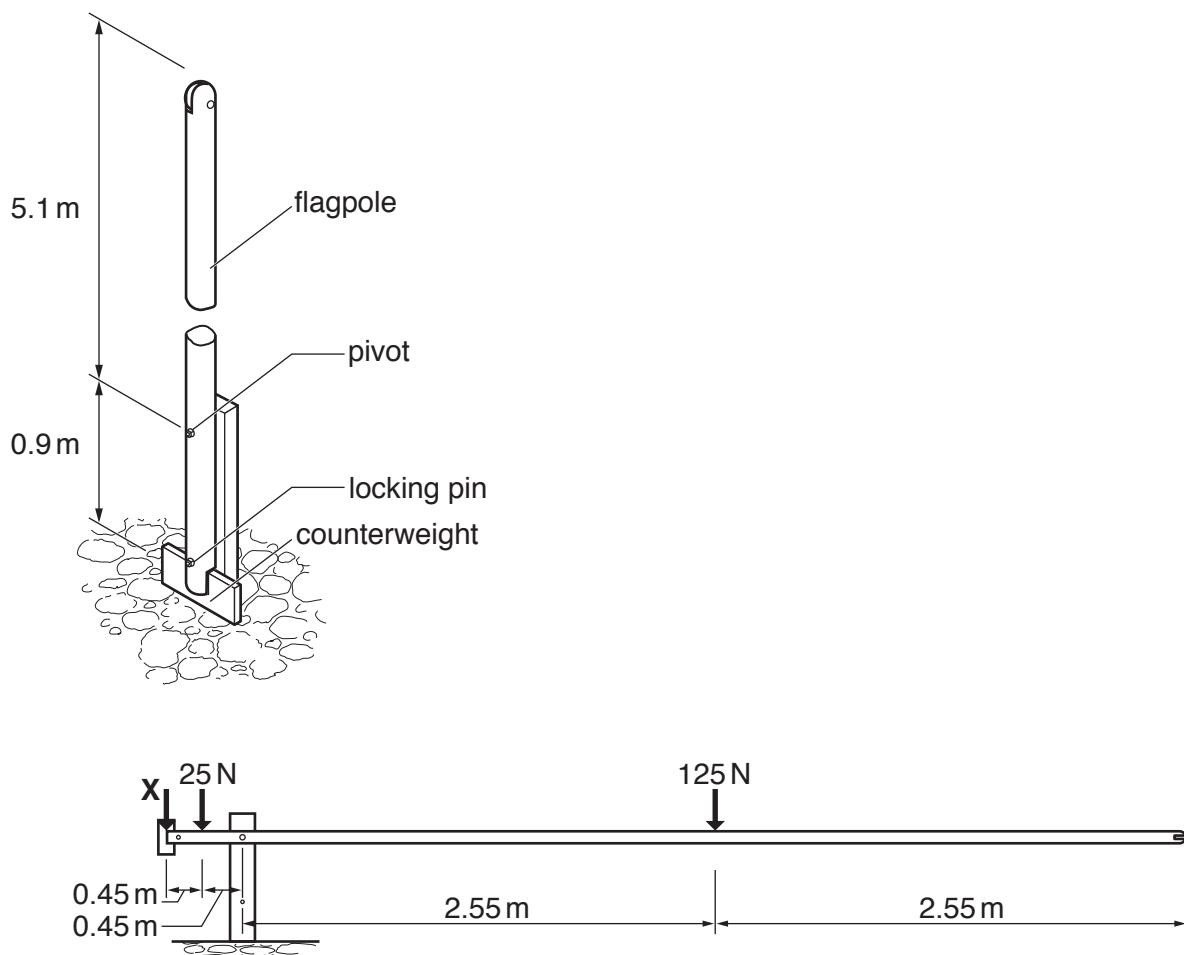

Fig. 7
- (iv) Fig. 7 shows the flagpole in the raised and lowered positions.